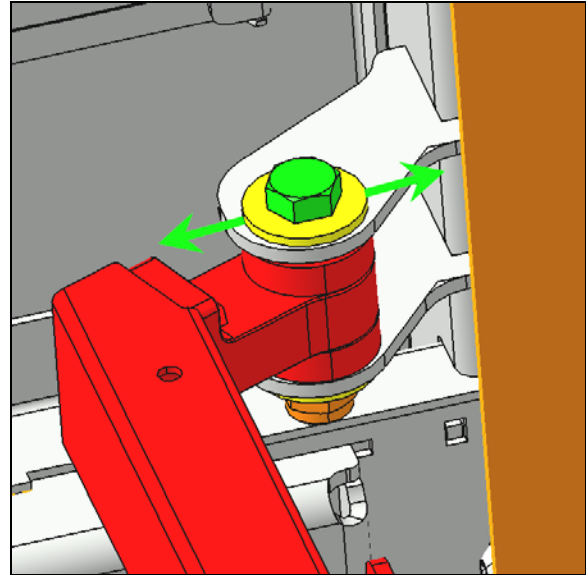

FIGURE 117
8. If the longitudinal position is out of tolerance, adjust using the adjustment provided on the lower attachment point of the arm on the vehicle chassis (FIGURE 117).